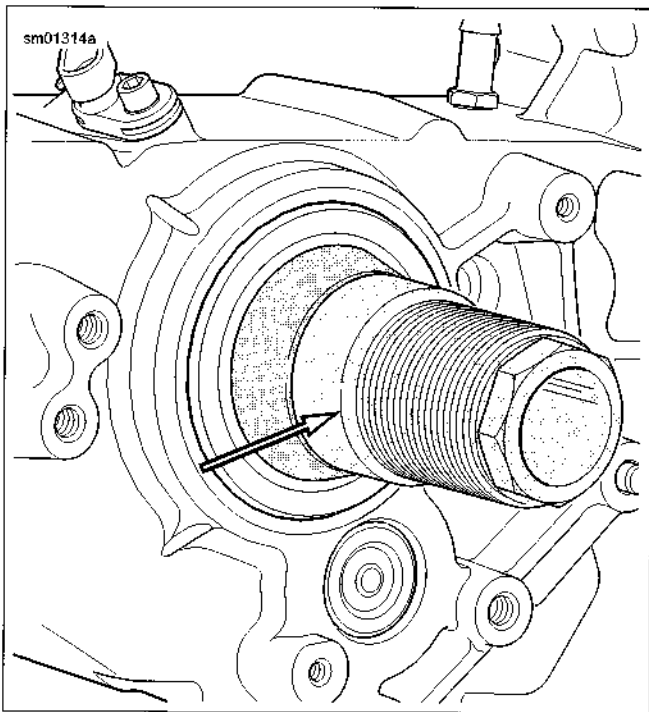

Figure 5-56. Install Adapter
5. See Figure 5-56. Thread ADAPTER (Part No. HD-47856-4) onto end of main drive gear several turns. Do NOT tighten on drive gear. Doing so could make it difficult to remove adapter after seal has been installed.